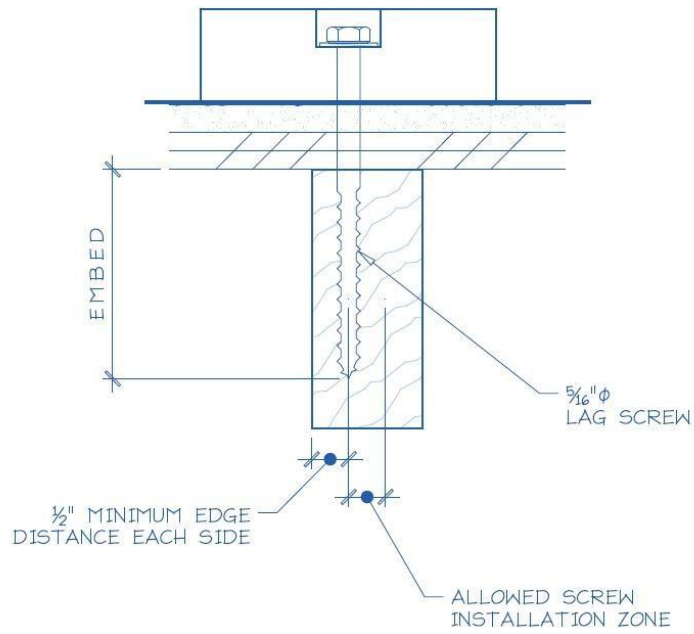

Figure 3. Typical Anchor with Lag Screw Attachment.
- 1). Anchor fastener data (see Figure 3):